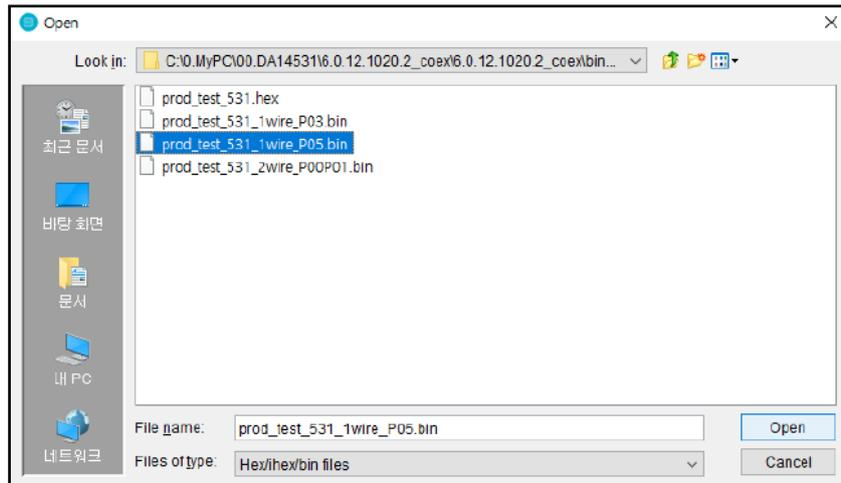

Figure 19: Select Binary File
- Select the binary file `prod_test_531_1wire_P05.bin` as shown in Figure 19. The pre-built `prod_test_531_1wire_P05.bin` located in DA14531 SDK of DA16600 SDK: